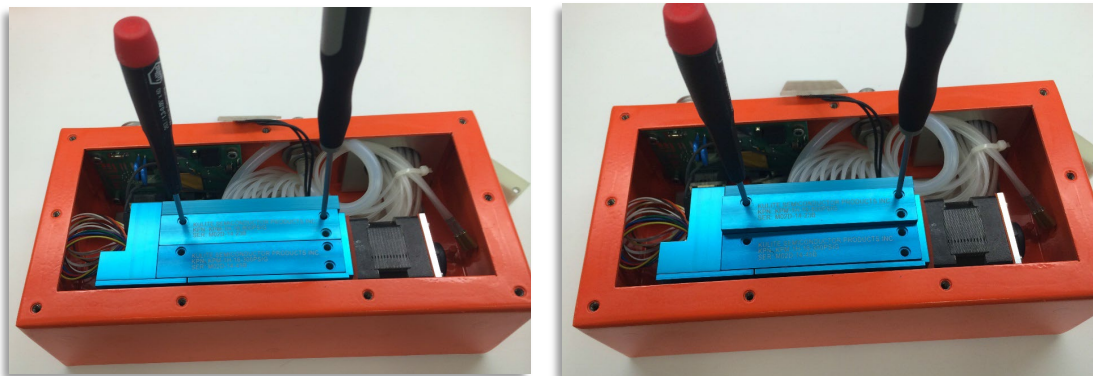

Figure 6: Removing Modules
**Step 4:** Using 2 Hex Drivers, gently remove modules by levering them out. (See Figure 6).